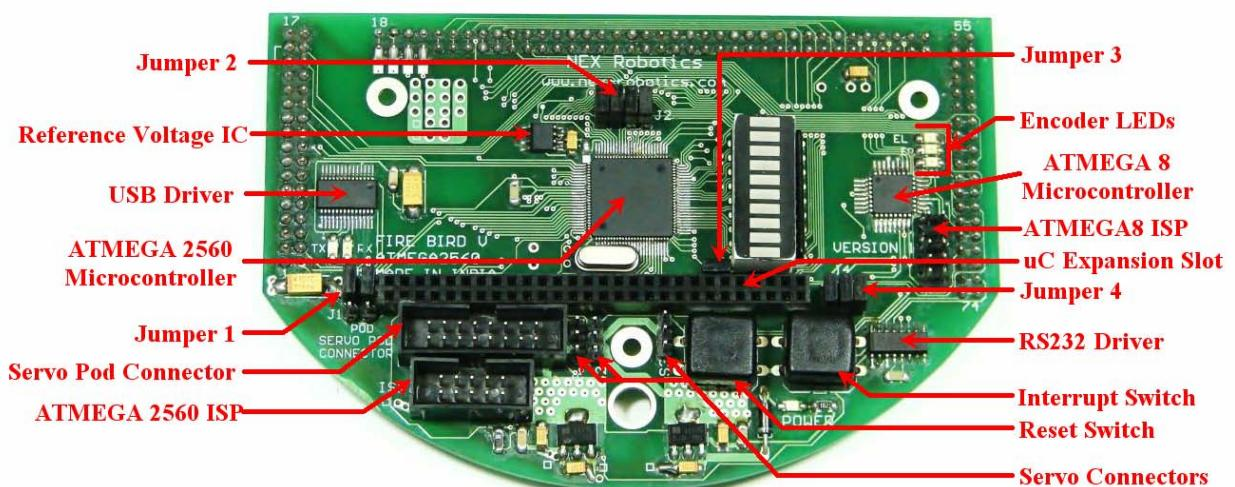

Figure 3.3: ATMEGA2560 microcontroller adaptor board
2. Move the power switch to the BP (refer to figure 3.3).
4. Now to turn on the robot move power switch towards “AP” (backwards) (figure 3.3).